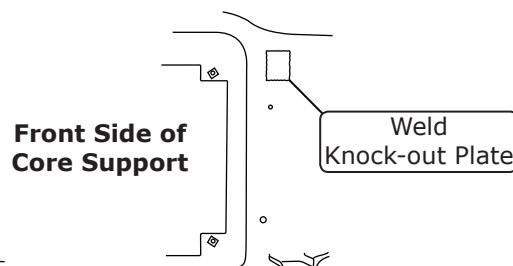

Figure 7a
1. Weld the knock-out plate to the core support as shown in Figure 7a, below.